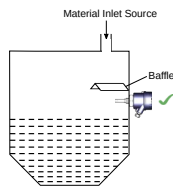

Figure 11: Provision of Baffle
- For side-mounting, provide a baffle to prevent the material from falling on the fork. Please refer to Figure 11.